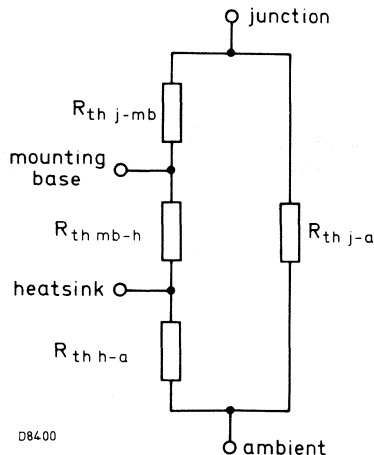

Fig. 4.
- a. The various components of junction temperature rise above ambient are illustrated in Fig.4.